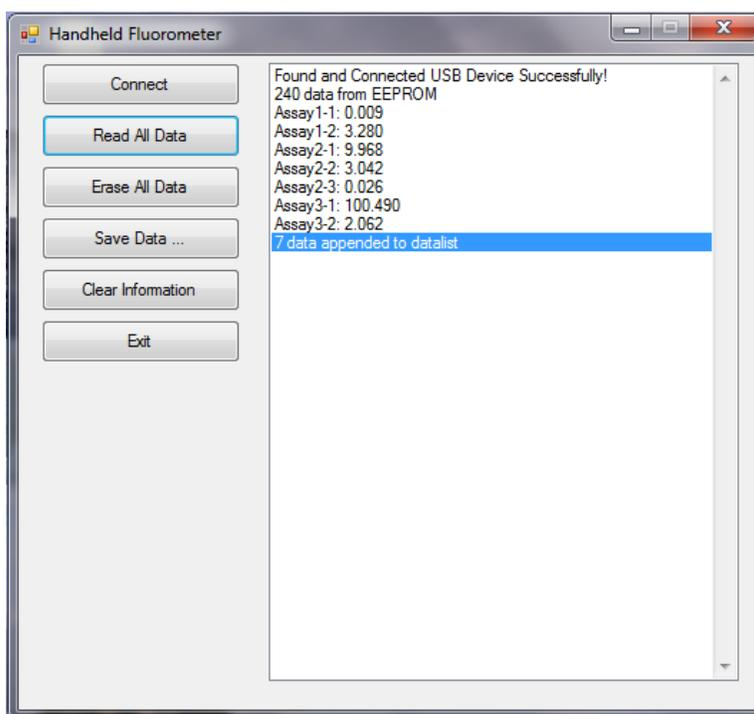

Figure 24. Access and manage saved data
- c. Click “**Read All Data**” button to read and display all saved data in the fluorometer as shown in Figure 24. The example shows that Assay#1 has 2 data points, Assay#2 has 3, and Assay#3 has 2 stored in the memory.